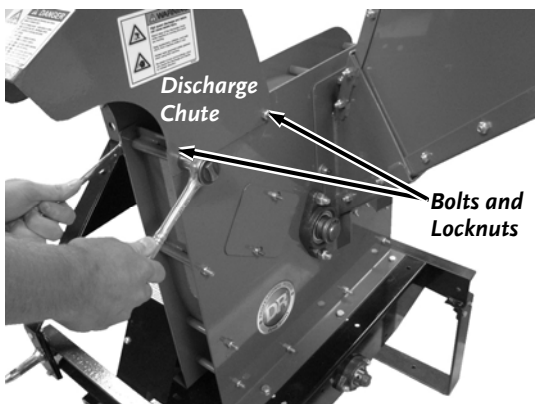

Figure 6
1. Remove the two 5/16-18 x 4-1/4" Bolts and Locknuts at the top of the Chipper Assembly using two 1/2" Wrenches (**Figure 6**).